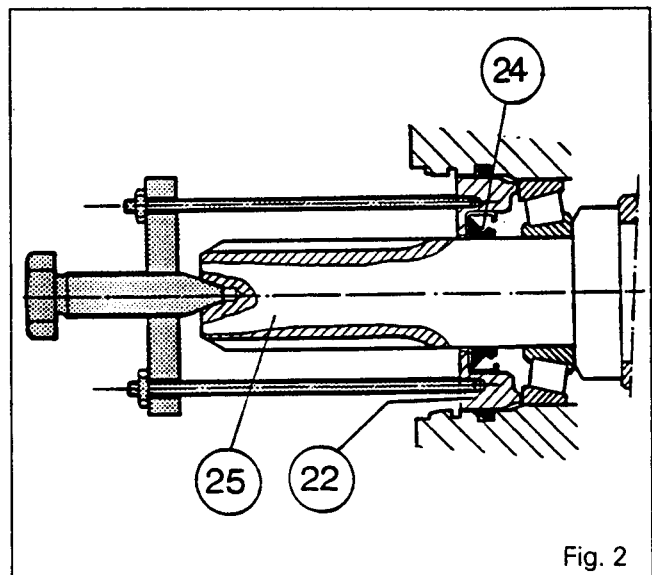
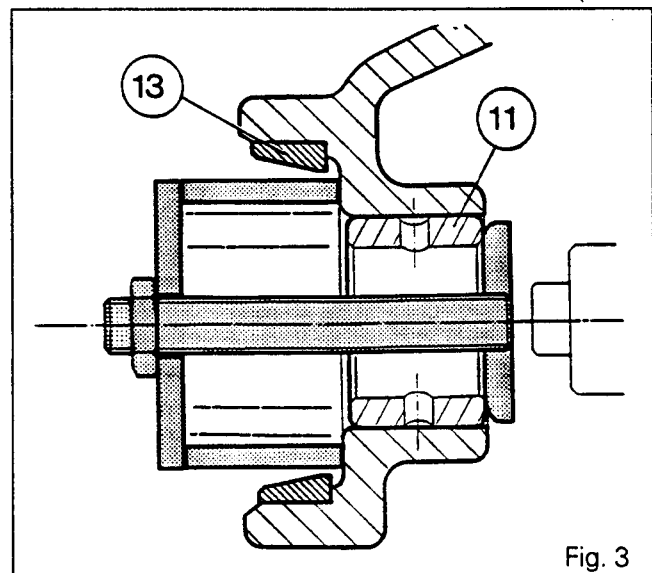

Fig. 2
Fig. 3
4. Remove the circlip (23).
5. Protect the splined section of the shaft (25). Extract the cap (22) with its seal (24) using the locally made tool (see section E). Remove the seal (24) (Fig. 2).
6. Remove the O-ring (21).
7. Remove the shims [20] and the cup (18).
8. Remove the shaft assembly (25) and bearing cone (19), whilst keeping the clutch assembly (16) and transfer gear (15) together.
9. Remove the clutch assembly (16) with the transfer gear (15) and bearing cone (14).
10. Using the locally made tool (see section E), remove the bush (11) (Fig. 3). This tool is essential for tractors with G.S. PTO. If necessary, also remove the cup (13) with a suitable extractor.
**If removing the gear (7), it is necessary to remove the right-hand hydraulic cover.**